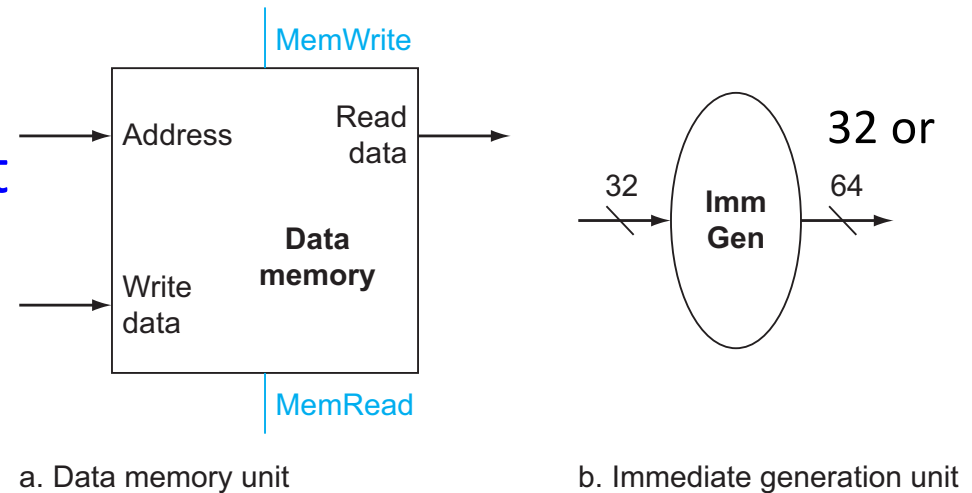

Figure 4.8. Imm Gen: generate 32- or 64-bit immediate value (depending on whether we design 32-bit or 64-bit machine) from an instruction word.
- Figure 4.8. Imm Gen: generate 32- or 64-bit immediate value (depending on whether we design 32-bit or 64-bit machine) from an instruction word.